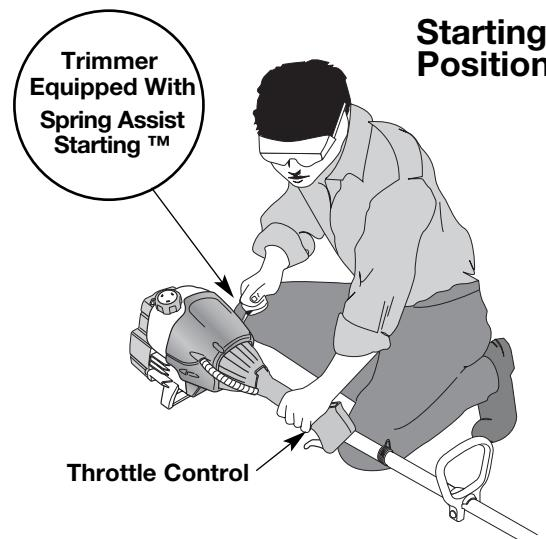

Fig. 8
WARNING: Avoid accidental starting. Make sure you are in the starting position when pulling the starter rope (Fig. 8). To avoid serious injury, the operator and unit must be in a stable position while starting.
- 4. Crouch in the starting position (Fig. 8), squeeze the throttle control, and pull the starter rope briskly 5 times.